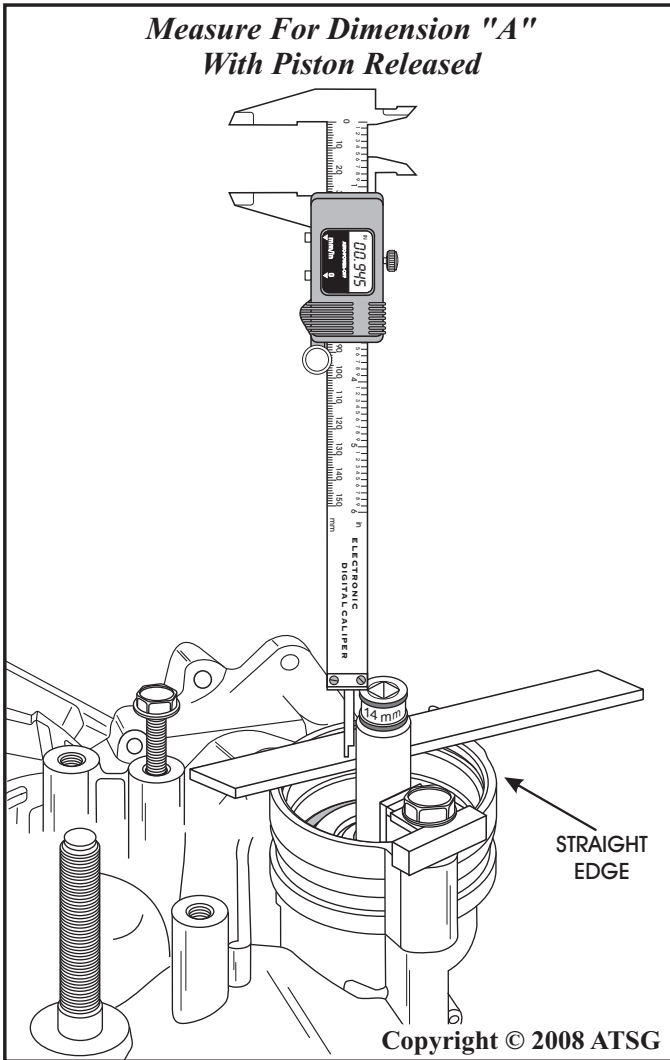

Figure 133
6. Using a dial caliper measure from the top of the 14 mm deep socket, down to a straight edge placed on machined surface of transaxle case, as shown in Figure 133.